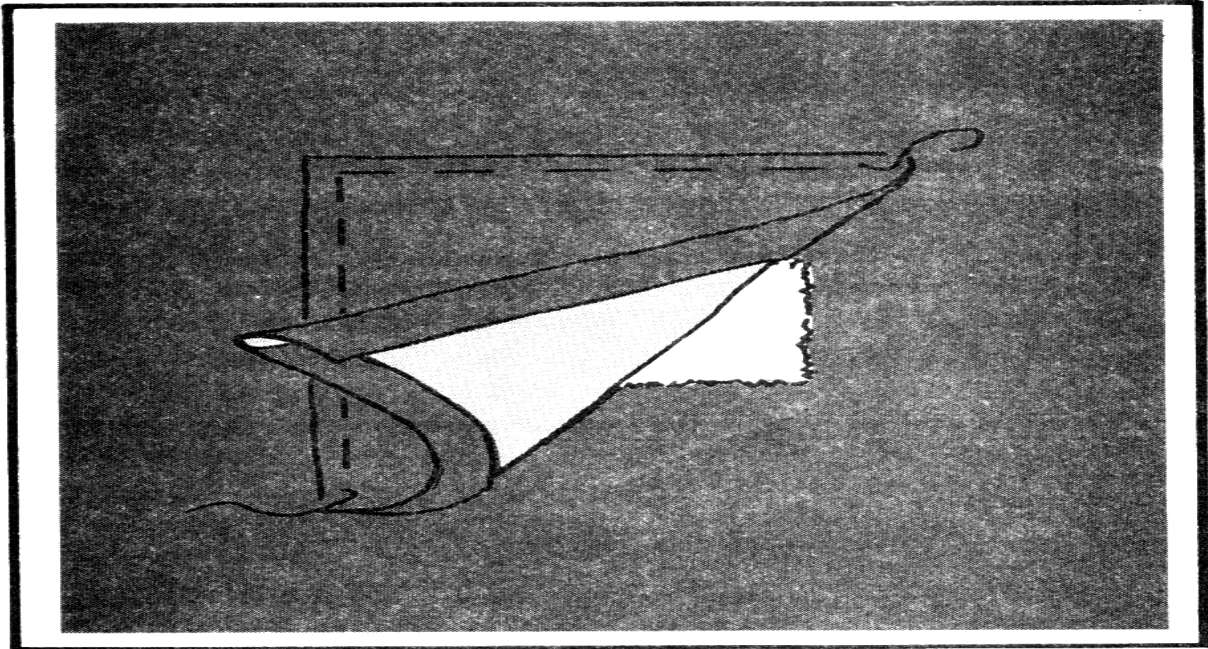

Figure 9-3. Simple canvas inverted patch
(2) Simple Canvas Inverted Patch. A simple canvas inverted patch (Figure 9-3) is sewn to the inside or the underside of the canvas. To make this patch, follow the directions in the previous paragraph, but center the patch on the underside of the canvas and secure it in place.